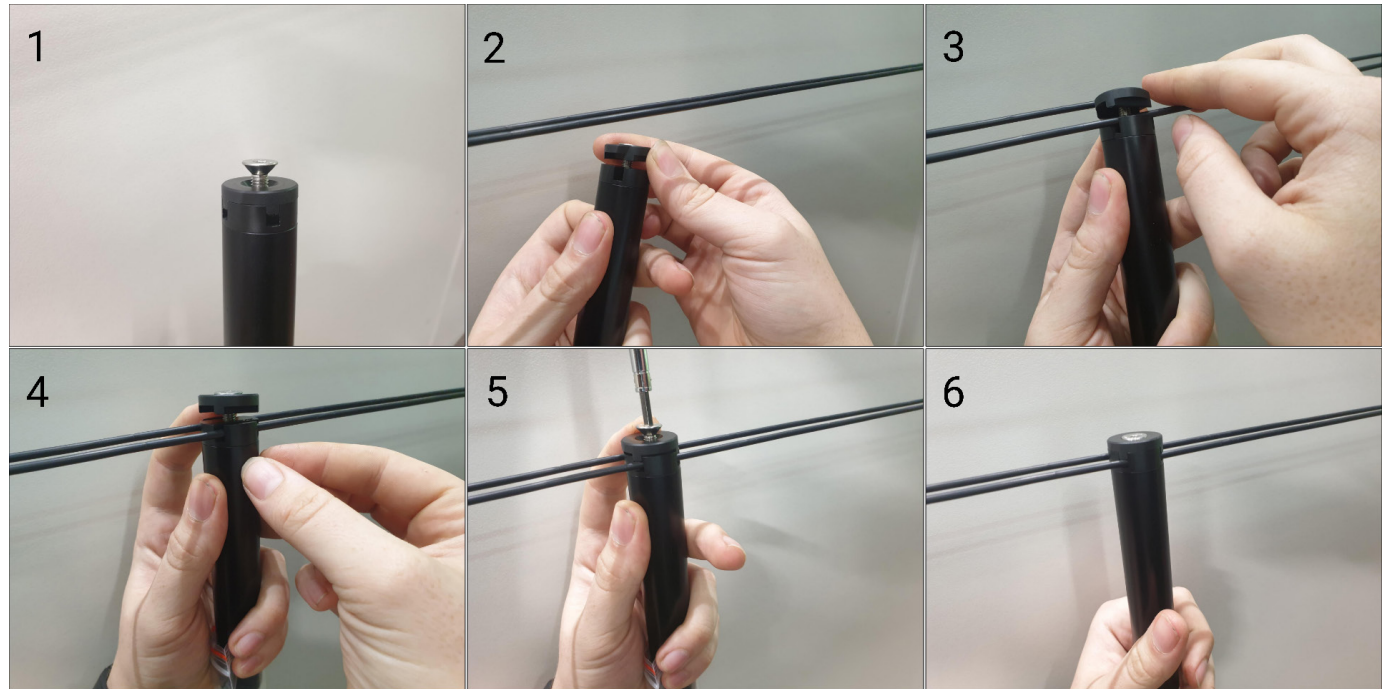

Fig 7, 1-6. Align both catenary cables within the two grooves at the top of the Air luminaire, securing the cap with the screw.
7. Air's cap comes supplied with its screw undone (Fig 7-1) to allow easy alignment and connection with catenary cabling. Simply lift the cap then align the two cables within the two grooves on the luminaire (Fig 7, 2-6). Secure the cap with an Allen key (Fig 7-5) and confirm the connection is secure (Fig 7-6).